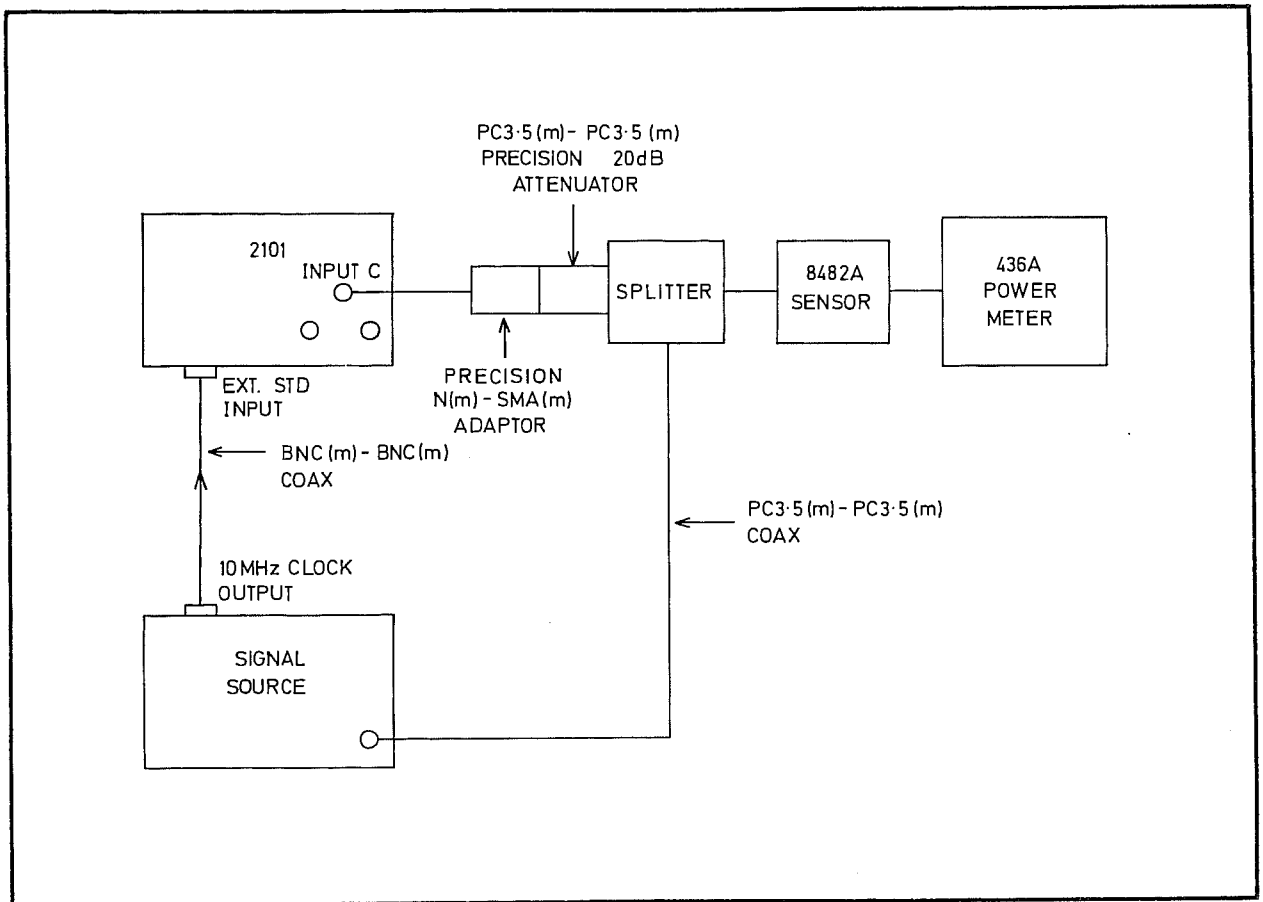
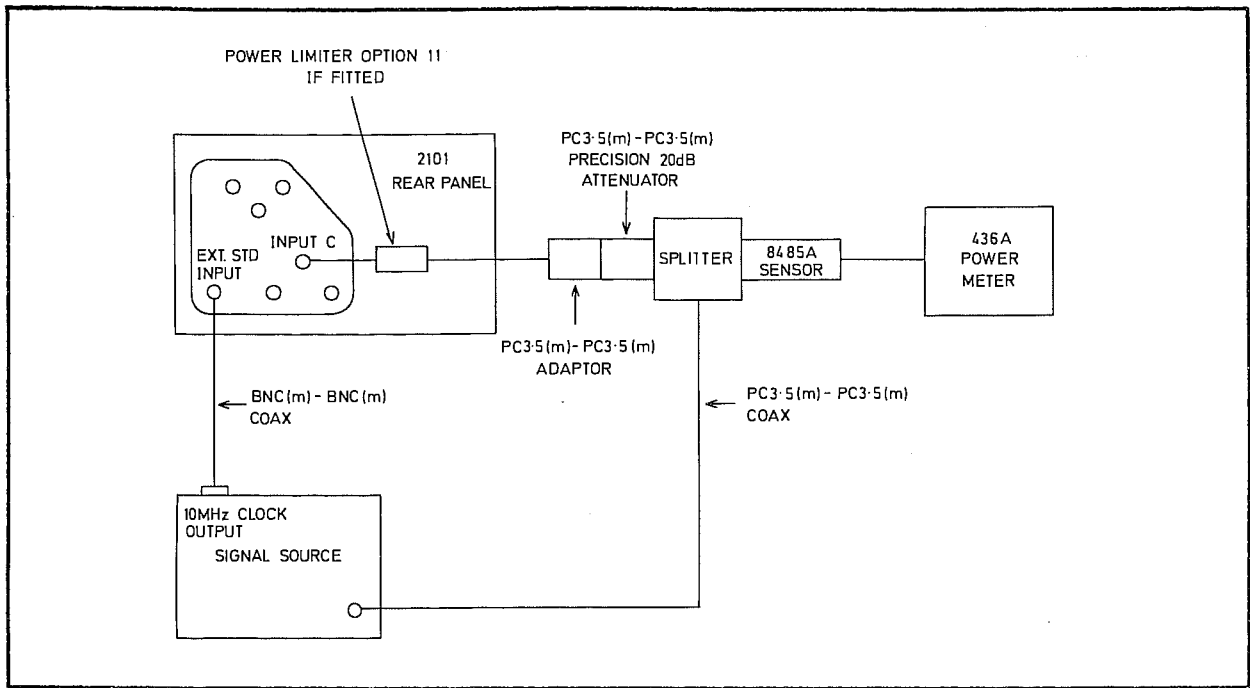

Fig. 7.22 Connections for Channel C Input System PVP
Fig. 7.23 Connections for Channel C Input System PVP with Option 01
- 85 (1) Connect the equipment as shown in Fig. 7.22 (Fig. 7.23 if Rear Inputs Option 01 is fitted).
- (2) Set the signal generator to each of the frequencies shown in Table 7.14 and at each step measure the actual sensitivity of the 2101. Check that the sensitivity is not worse than the figure shown.
- (3) Disconnect the equipment.